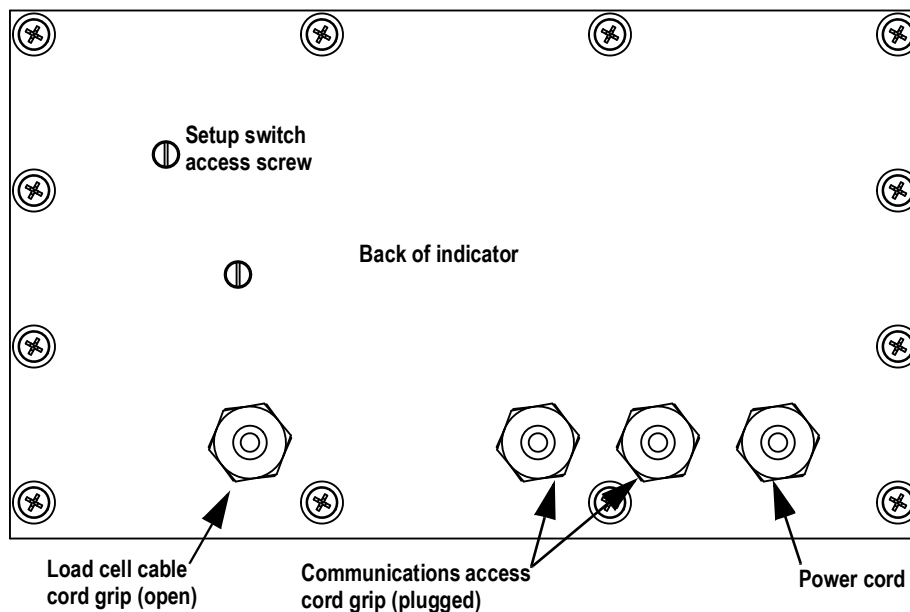

Figure 2-1. Recommended Cord Grip Assignments
1. Remove the setup switch access screw from the back of the enclosure, See Figure 2-1 on page 11.
The 480 provides four cord grips for cabling into the indicator: one for the power cord, three to accommodate load cell, communications, digital inputs and outputs, and analog output cables. Two of the three free cord grips come with a plug installed to prevent moisture from entering the enclosure. Depending on the application, remove the plug from another cord grip that will be used and install cables as required. See Figure 2-1 for the recommended assignments for the 480 cord grips.